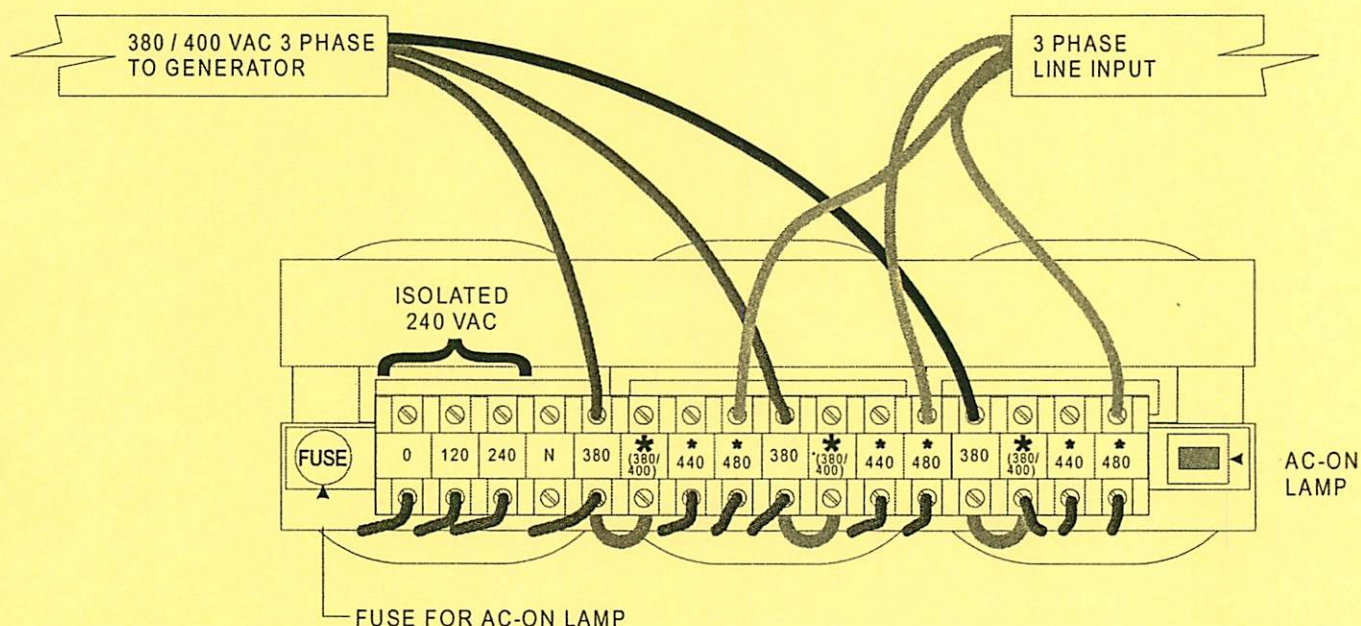

Figure 2: Line voltage taps on line adjusting transformer
Before continuing, confirm that the line-adjusting transformer is correctly tapped for the line voltage in use. The following steps detail the procedure to do this, and to change the tap setting if required. Refer to figure 2.
2. Switch OFF the AC line voltage at the main disconnect switch. Allow sufficient time for all capacitors in the generator to discharge. Open the lower generator door, and confirm the line tap settings per figure 2. The line tap positions are shown with asterisks (*); the large asterisk's indicate the 380 / 400 VAC taps. The figure shows the transformer tapped for 480 VAC input.
3. If the line voltage is nominally 380 / 400 VAC or 440 VAC, the line input connections must be moved to the appropriate taps. As noted in the previous step, the available tap positions are marked with asterisks in figure 2. All three phases must be tapped to the same input voltage.
The part number of the power distribution board assembly to order for spares purposes is 735520-00. The part number for the line-adjusting transformer with the 240 VAC auxiliary winding is 733543-00. This part number includes the transformer, the AC ON indicator lamp, and the fuseholder shown in figure 2. The fuse for the AC-ON lamp on the transformer is type AGC-1/4, part number 6713232500.